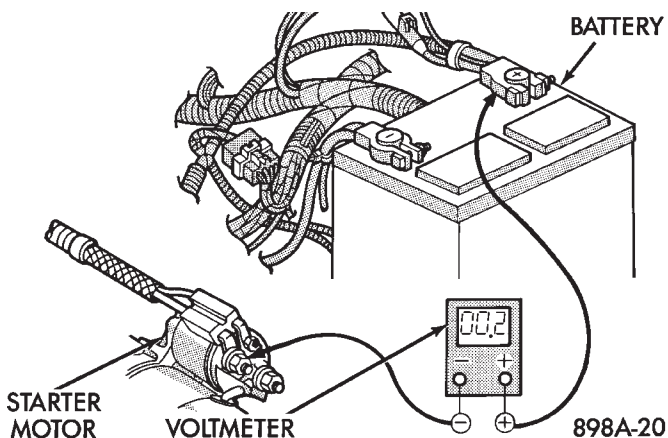

Fig. 12 Test Battery Positive Cable Resistance - Typical
(3) Connect the voltmeter to measure between the battery positive terminal post and the starter solenoid battery terminal stud (Fig. 12). Rotate and hold